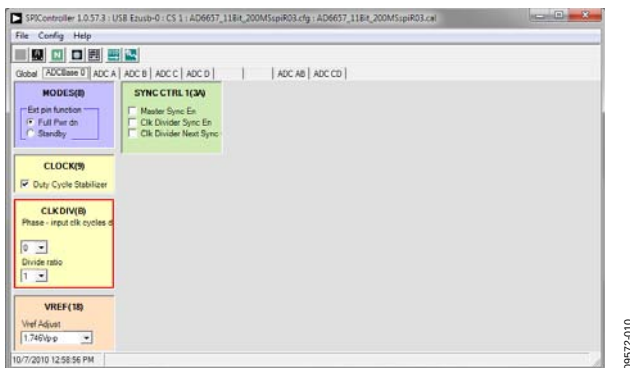
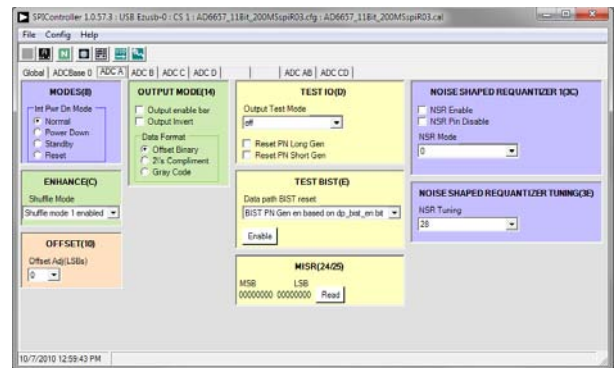

Figure 10. SPIController, CLK DIV(B) Box
Figure 11. SPIController, Example ADC A Page
- In the **ADCBASE 0** tab of the **SPIController** window, find the **CLK DIV(B)** box (see Figure 10). If using the clock divider, use the drop-down box to select the correct clock divide ratio, if necessary. See the appropriate part data sheet; the AN-878 Application Note, *High Speed ADC SPI Control Software*; and the AN-877 Application Note, *Interfacing to High Speed ADCs via SPI*, for additional information.
- Note that other settings can be changed on the **ADCBASE 0** page (see Figure 10) and the **ADC A** and **ADC B** pages (see Figure 11) to set up the part in the desired mode (**ADC C** and **ADC D** can also be changed if using the AD6657). The **ADCBASE 0** page settings affect the entire part, whereas the settings on the **ADC A** and **ADC B** (as well as **ADC C** and **ADC D**) pages affect the selected channel only. See the appropriate part data sheet; the AN-878 Application Note, *High Speed ADC SPI Control Software*; and the AN-877 Application Note, *Interfacing to High Speed ADCs via SPI*, for additional information on the available settings.